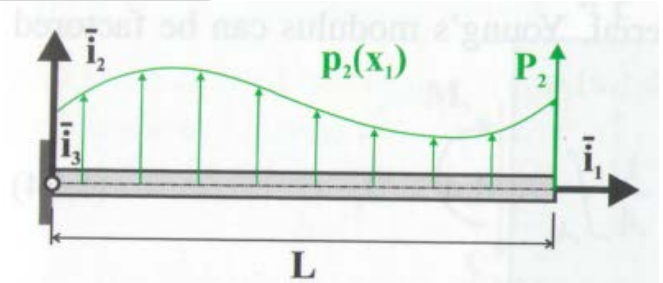

Fig. 5.14. Beam subjected to transverse loads.
- Beams subjected only to transverse loads (Fig. 5.14)
◦ beam under a distributed transverse load,  $p_2(x_1)$ , Fig. 5.14